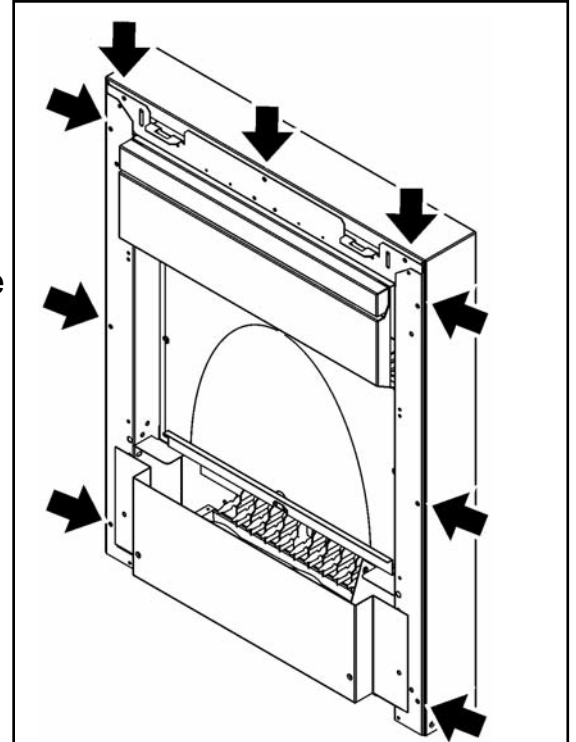

Figure 7. Fitting the spacer frame to the Envy and Twilight heater
**Twilight model** - The spacer frame will need to be fitted to the heater at this point using nine No.8 x 3/8" screws provided (See figure 7).